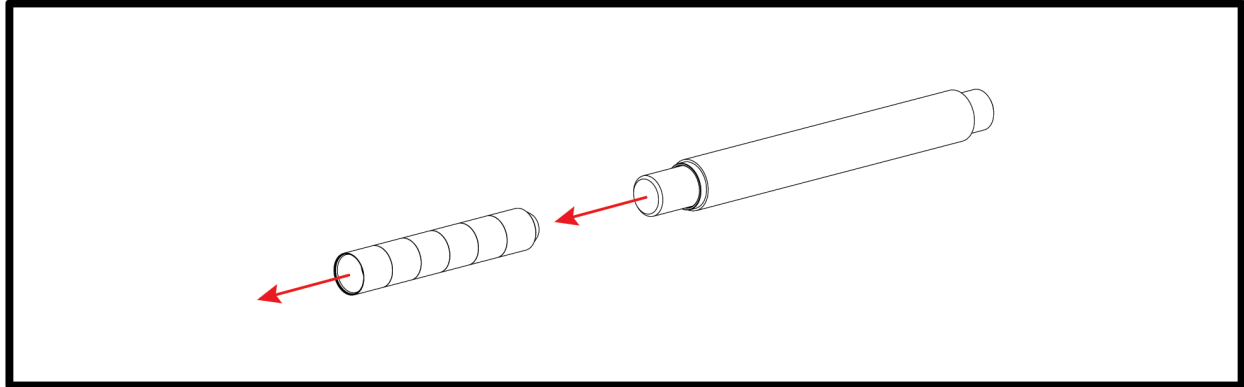

FIGURE 8.2 - Push baffle stack out the front of the tube
4. Push the baffle stack forward and out through the front of the outer tube. (FIGURE 8.2)